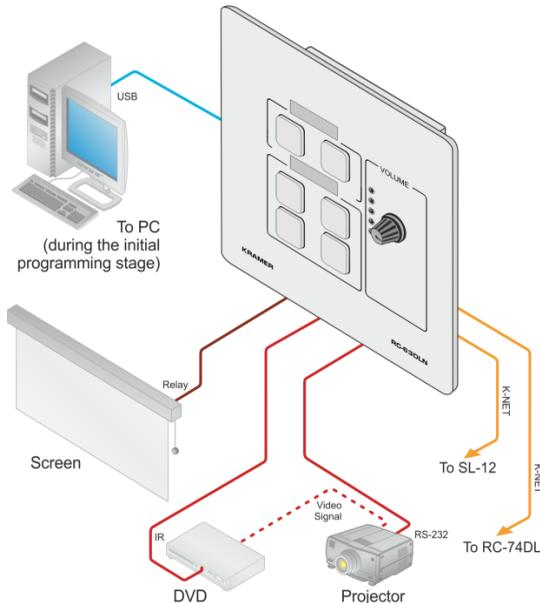

Figure 5: Connecting the RC-63DLN
To connect the **RC-63DLN**, as shown in the example in Figure 5, do the following:
- Connect REL 2 (for example, to a lighting system, not shown in Figure 5)